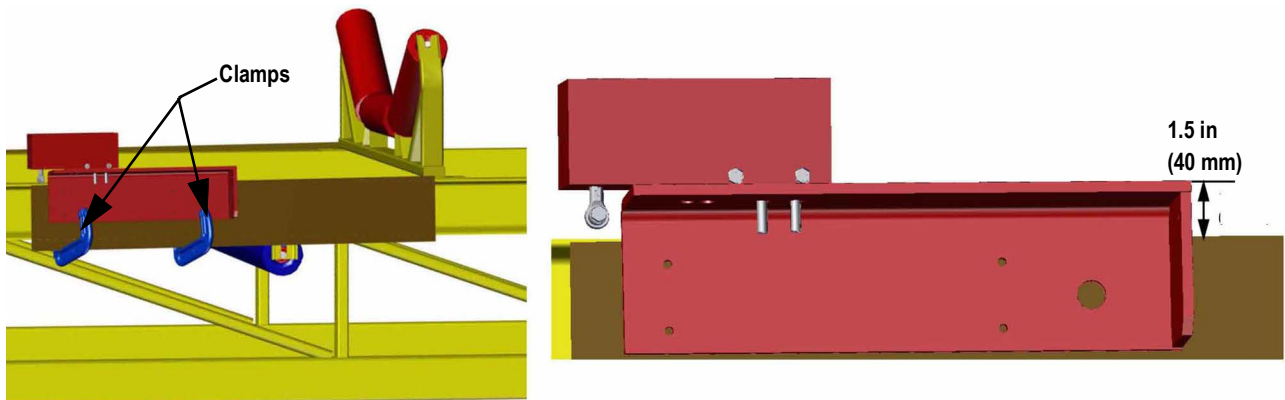

Figure 2-5. Use Clamps to Position Weldment
7. Using clamps, position each weldment into the proper position. The top of the weigh frame should be positioned 1.5 in (38.1 mm) above the stringer to allow clearance for the idler station when bolted back into place (see Figure 2-5). Ensure the long end of the lever arm points in the same direction as the belt travel.